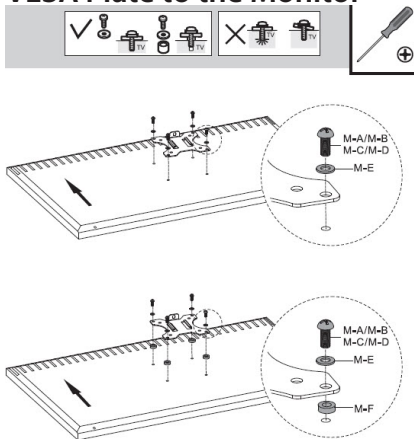

Figure 9
1. Place the **Monitor** on a padded surface, screen side down, so the back of the **Monitor** is accessible. (Figure 9)